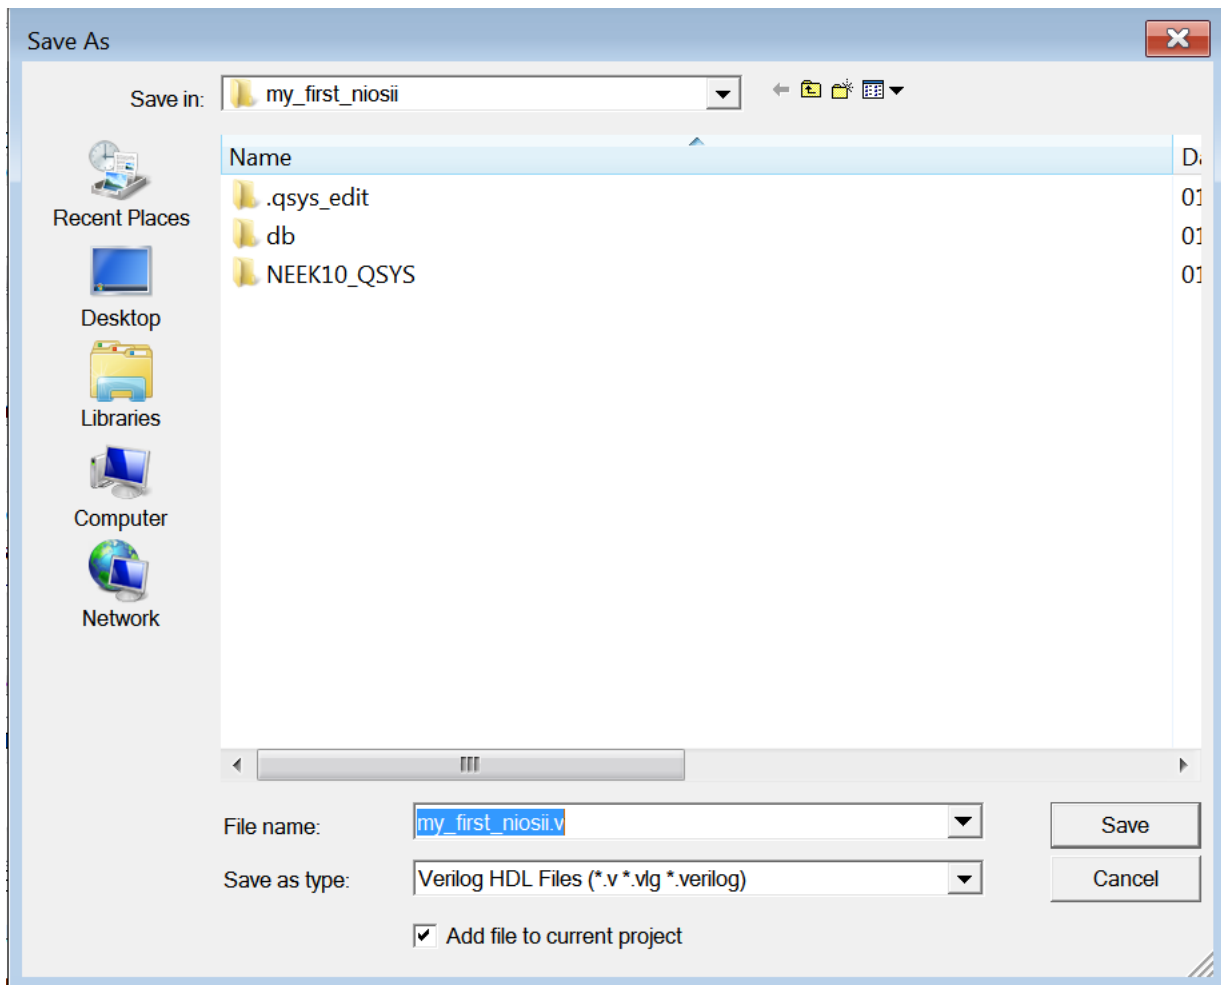

Figure 1-40 Save the Verilog HDL file
35. Choose **File -> Save** and save the Verilog HDL file as my_first_niosii.v, as shown in **Figure 1-40**.
36. Choose **Project-> Add/Remove Files** in Project and select NEEK10_QSYS.qip, as shown in **Figure 1-40**. Click **Add** and then **OK**, as shown in **Figure 1-40**.